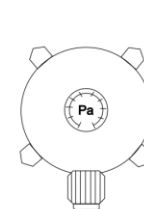

figure 1a/рисунок 1а
7. If heaters/preheaters are with pressure switch installed, after heaters installation pressure switch must be in vertical position (look at figure 1a).